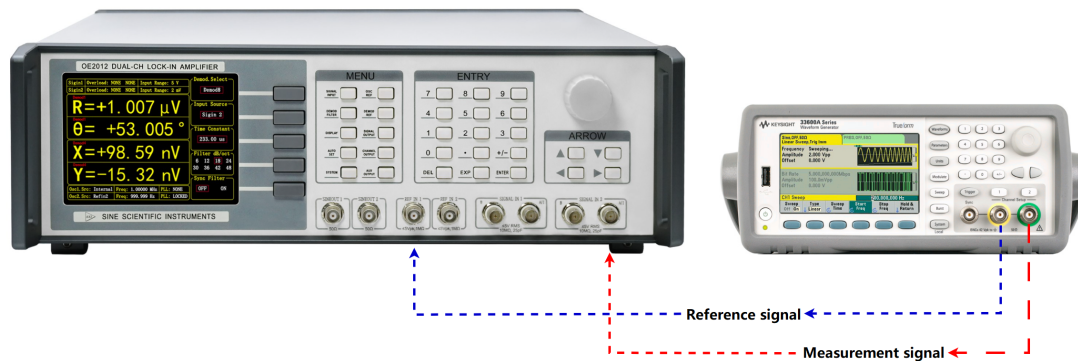

Figure 92. Signal Cable Connection Diagram
2. Use a signal cable with BNC connectors to connect the output connector of the function generator to the IN+ connector of SIGNAL IN 1 on the front panel of the OE2012. Use another BNC signal cable to connect the synchronous reference signal connector of the function generator to the REF IN 1 connector on the front panel of the OE2012, as shown in Figure 92.